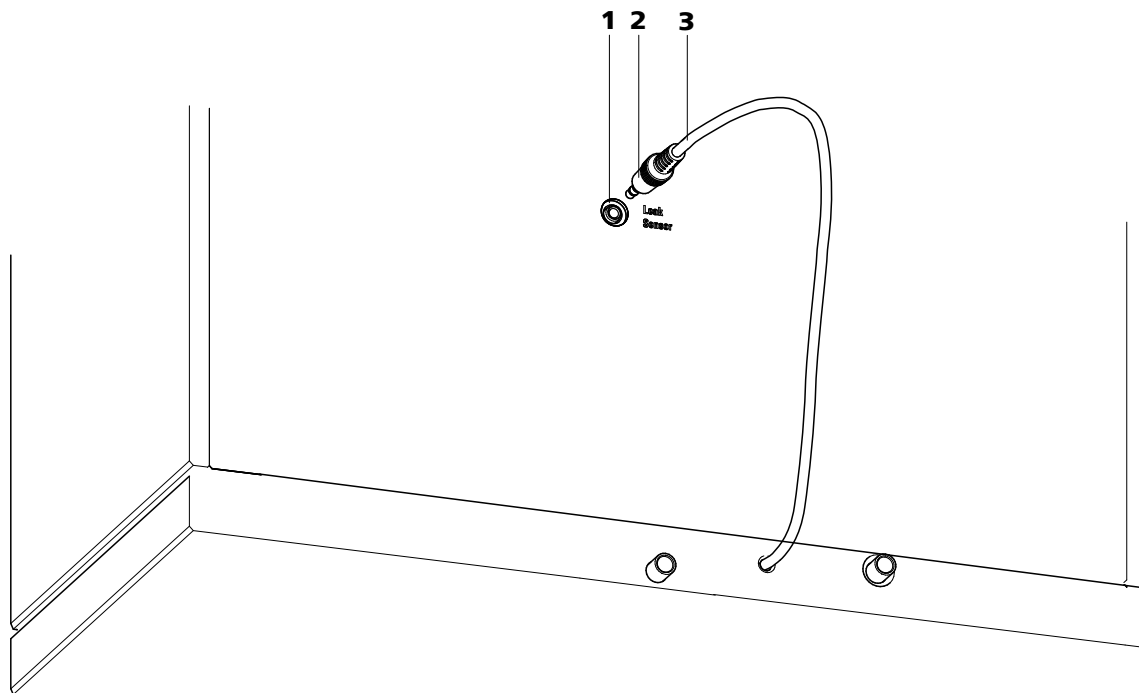

Figure 7 Connection of the leak sensor on the rear of the instrument
- 1 Plug the leak sensor connector plug (7-2) into the leak sensor connection socket (7-1) on the rear of the instrument (*see figure 7, page 22*).